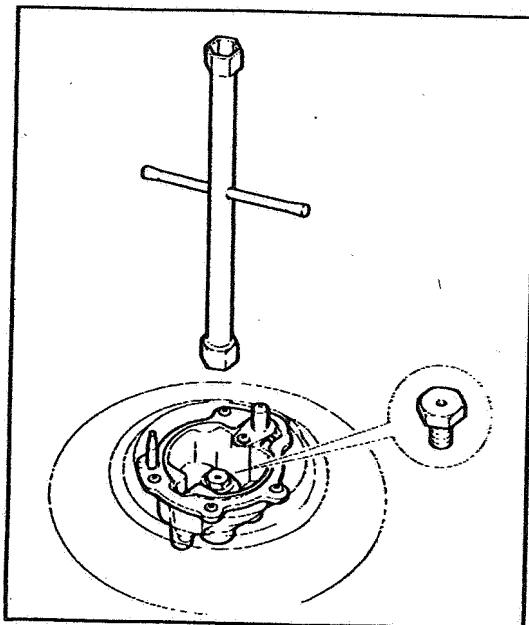

FIGURE 1
2. Remove all the burners and unscrew the jets using a 7mm socket. See Figure 1.
1. Remove the hob. (See Figures 1 and 4)